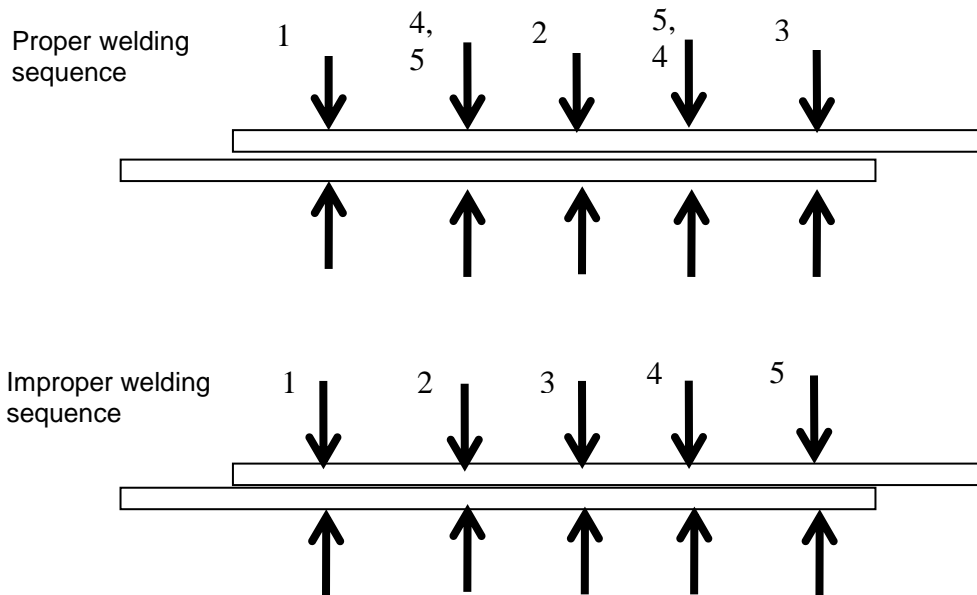

Figure 1: Proper and improper welding sequence
**Passage 4 and Figure 1** below are taken from instructions on squeeze-type resistance spot welding. Together they make the directions clear to the reader.
*Spotting sequence:* Do not spot continuously in one direction only (See Figure 1). This method results in weak welding because of the shunt effect of the current. If the welding tips become too hot, the tips will change colour. If this occurs, stop welding and let them cool. Note: It is important memorize this welding sequence.
**Figures 1, 2 and 3** show in a clear sequence what happens to the metal bar at the different stages. The passage adds information about the process. The diagrams illustrate the same information so that the process is easier to understand and remember.
When answering questions about sequence, whether in written material or in diagrams, go back through the passage. Find the appropriate place and read each step. You may have to trace the steps with your finger while your eyes move back and forth between diagram and passage. You might have to read the section several times to make sure you have the correct match. In some cases, there may be steps that are almost the same. But, as shown in **Figure 1**, “almost the same” usually won’t get you correct results.